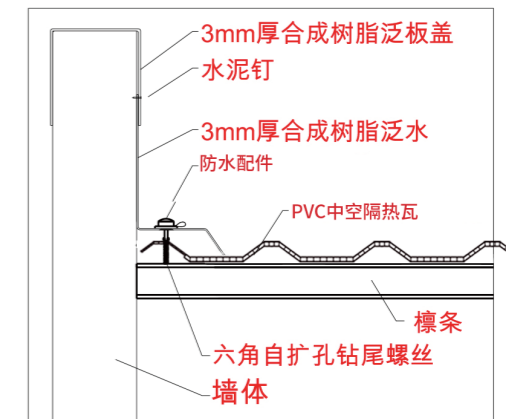

Figure 9
- 2 Method 2: Custom-made flashing and a cover plate using metal or synthetic resin sheets according to site dimensions. First, attach the flashing close to the wall, then place the cover plate over the flashing close to the wall; then drive in cement nails, fixing the other end to the corrugated tile (see Figure 9).